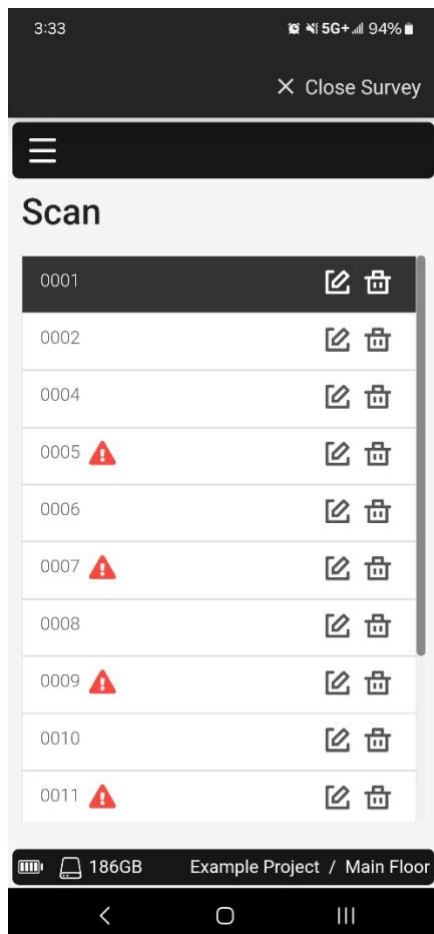

Figure 17- Scan menu, scans with alignment alerts are listed
4. Scans with possible alignment issues are listed with a red warning icon (see Figure 17).